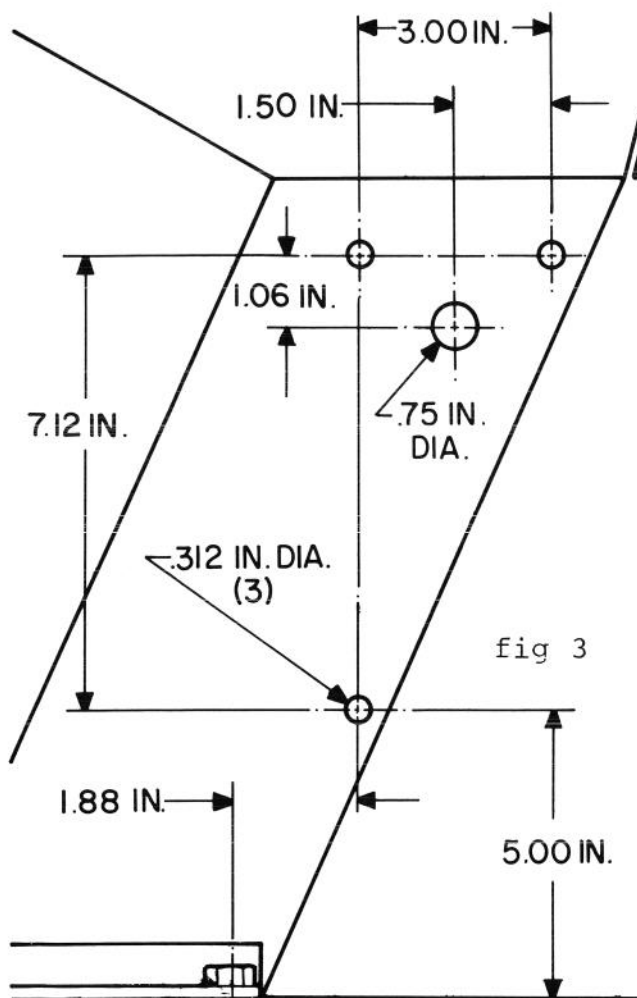

fig 3
1. Using dimensions in fig 3, drill a 3/4" hole and three 5/16" holes in Right Side Plate.